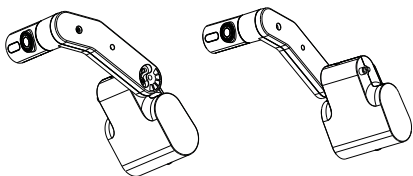

Figure 3-4 Mount Back Camera
- Step 5** Mount the back camera. The back camera can be mounted on the left or right side of front camera according to the mobile setting, as shown in Figure 3-4.